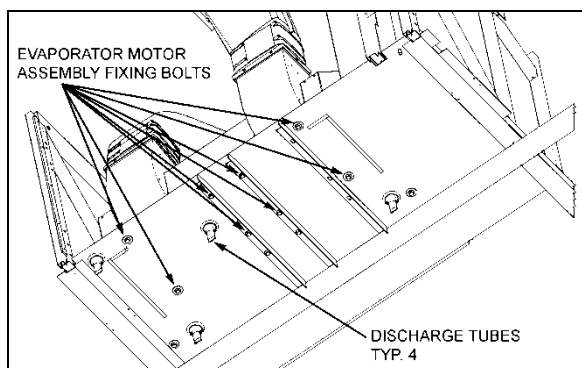

FIGURE 23: EVAPORATOR MOTOR BOLTS 22315
- From under the vehicle, remove the eight bolts fixing the double blower fan unit base. Remove the complete unit from the evaporator compartment (Figure 23).